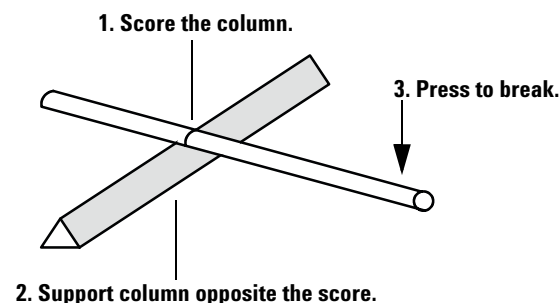

Figure 1 Cutting the column
- 2 Cut off the column end with a square cut (Figure 1).